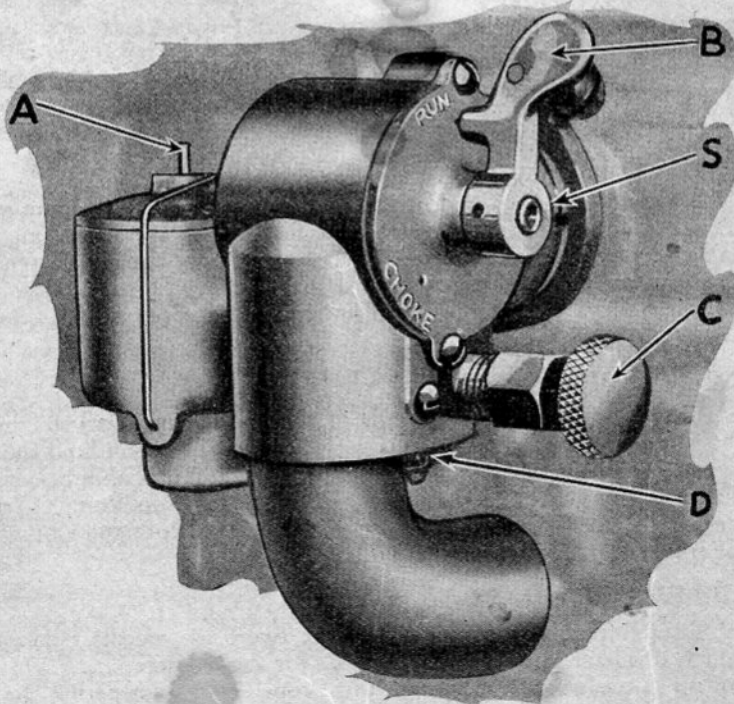

Figure 3
3. See that float valve (small pin on top of carburetor bowl) rises, indicating gasoline in the bowl. ("A" in Figure 3.)
4. Close the Needle Valve ("C" in Figure 3) on the Carburetor and then OPEN it one and a half turns. After motor is running and warm, slowly close this until motor runs best and most steadily. It is unnecessary to change this once it is properly set, altho in some cases opening it a quarter turn will facilitate starting.
5. Turn the Choke-and-Throttle Lever ("B" in Figure 3) forward and down to position marked "Choke"—no farther.
10. Slowly move the Choke-and-Throttle Lever upward as the motor warms up, until it is straight up in the position marked "Run". (See Figure 3.)
Note—If you put the Choke-and-Throttle Lever as far back as it will go, to position marked "S" in Figure 3, the motor will stop.